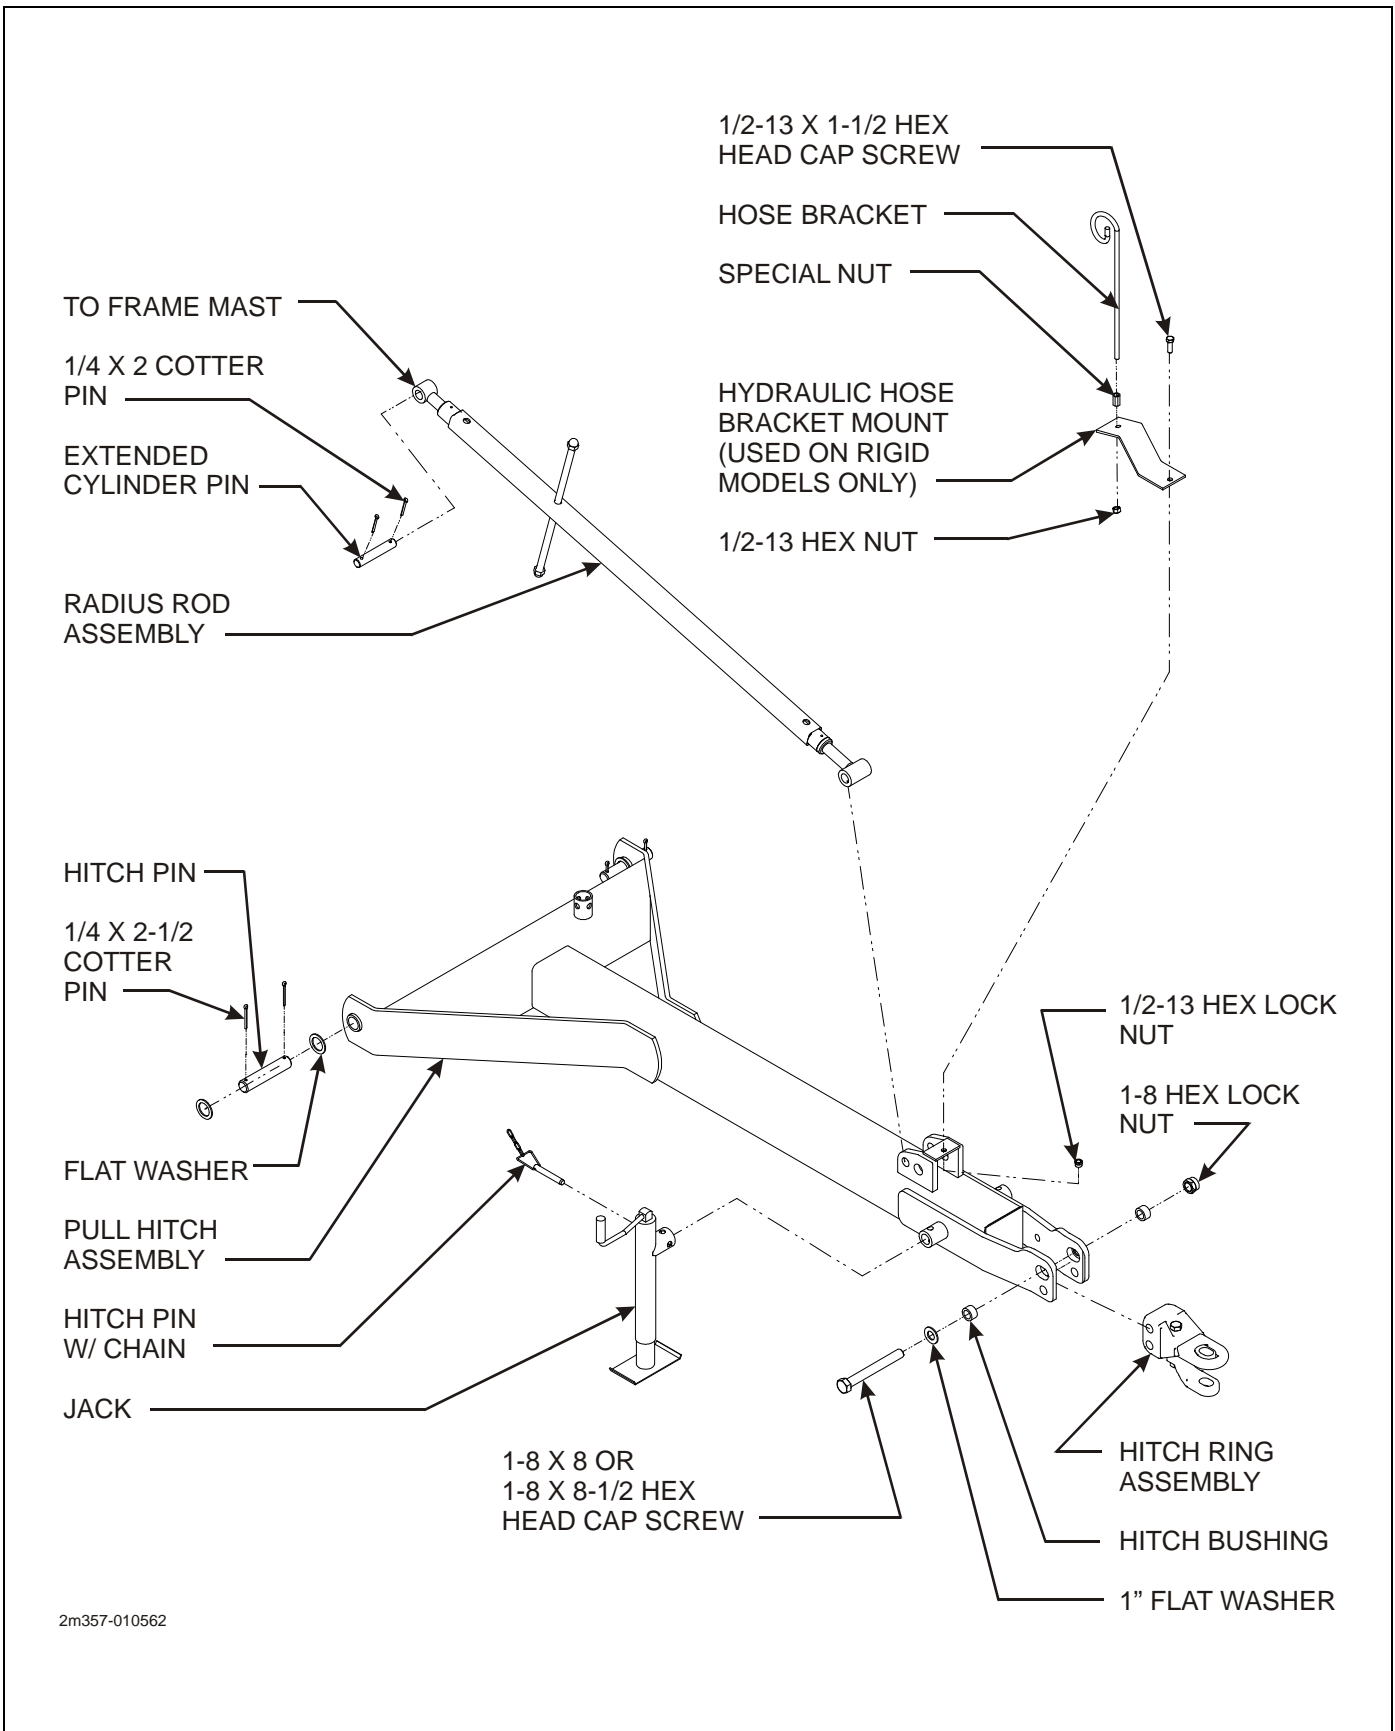

Figure 3-16: Pull Hitch Installation - All Other Models
1. Install pull hitch assembly to frame using hitch pins, flat washers, and 1/4 x 2-1/2 cotter pins **(See Figure 3-16.)**
4. For all fold models, install hose bracket on pull hitch with special nut and 1/2-13 hex nut. On all rigid models, install hose bracket and hose bracket mount to pull hitch assembly using 1/2-13 x 1-1/2 hex head cap screw, hex lock nut, special nut, and hex nut **(See Figure 3-16.)**